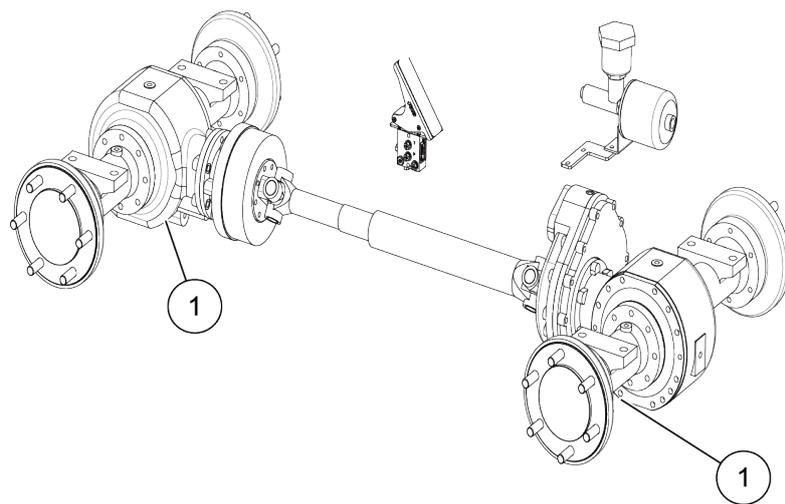

Figure 6-31 Oil port position when draining oil
(4) Brake fluid tank
Step 1: Drive the loader onto a flat field, slowly move the loader to let the oil plug (1) at the lowest position, as shown in Figure 6-31: